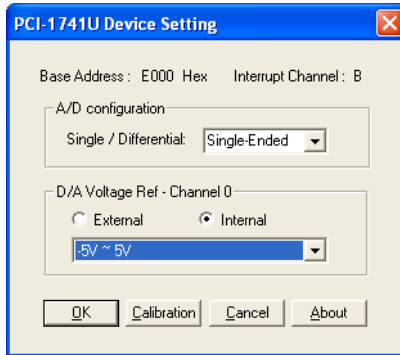

Figure 2.5: The Device Setting Dialog Box
Step 4: In the Device Setting dialog box (Figure 2.5), you can configure the A/D channel as Single-ended or Differential and choose the D/A channel reference voltage source type..